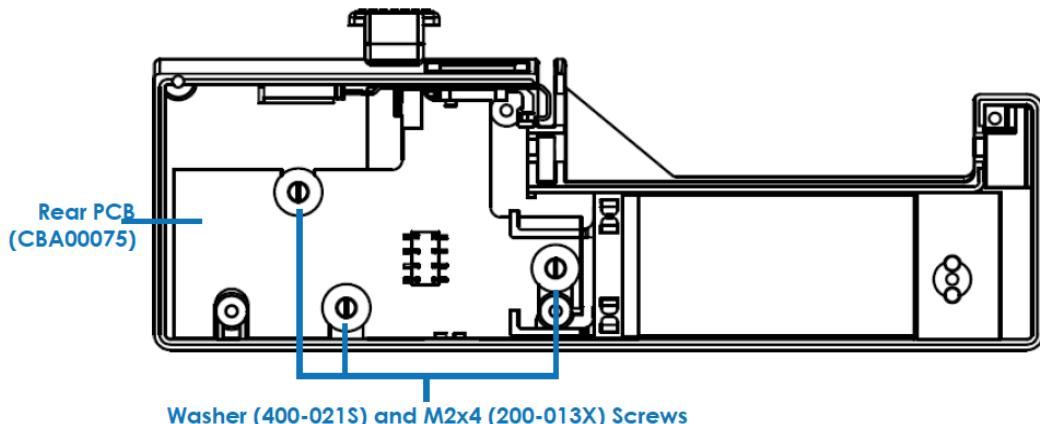

Figure 6-41. Rear Assembly
- c. Insert the three M2 plastic washers in place (see Figure 6-41) and screw the slotted cheese head screw M2x4 through each washer into each of the inserts.